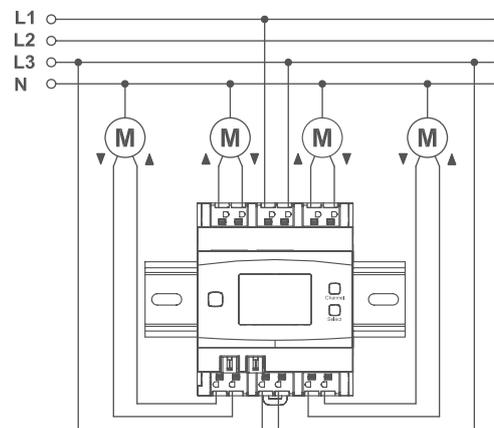

Figure 4
- Connect the phase conductor for the selected channel to the corresponding terminal (G) (see figure 4). Any types of phase conductors (L1, L2, L3) can be connected to the power input terminals.
ding terminal (▲) (H) (see figure 4).
- Connect the switched phase conductor to move down the motor for the selected channel to the corresponding terminal (▼) (I) (see figure 4).